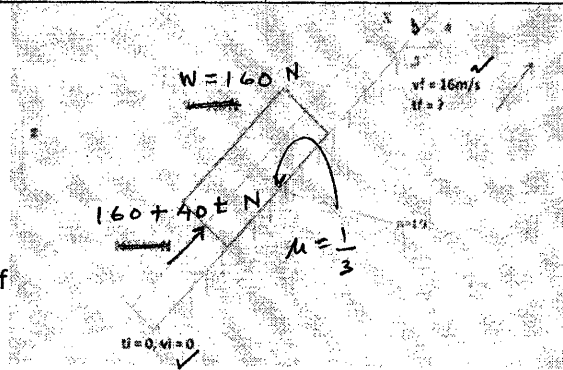

Figure 2
- B) Find the magnitude and direction of the acceleration of the center of the block (which slides up the plane). What is the t_f in depicted situation. (Refer fig 2)